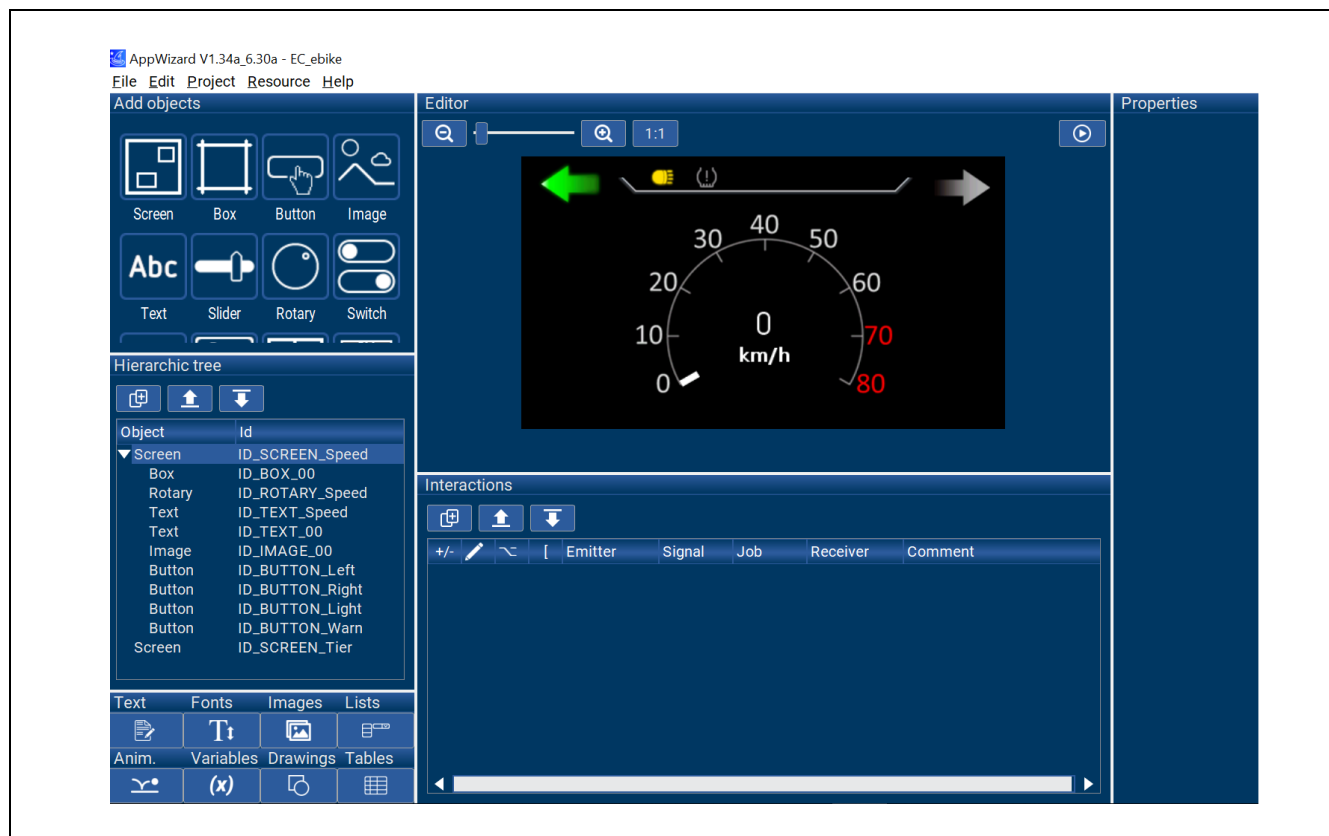

Figure 1-32 Using Button Object to Create Headlight, Warning Light, and Turn Signal
- Adjust the positions accordingly as shown in Figure 1-32 once the settings are completed.